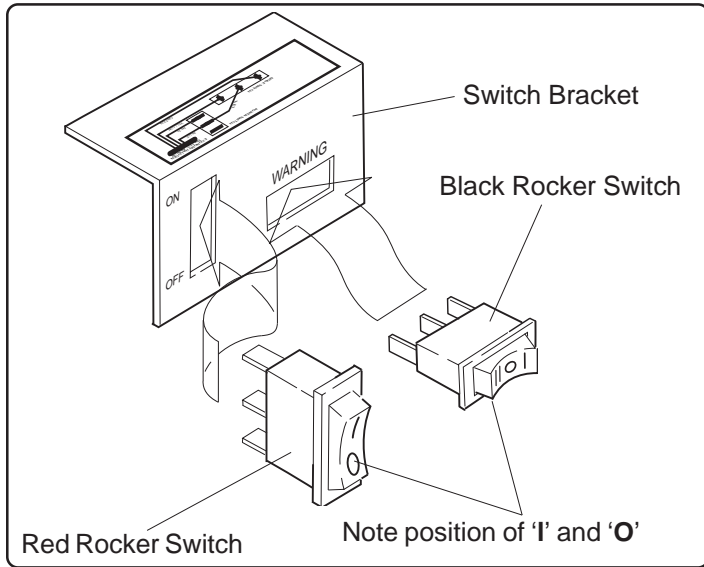

Figure 2. Switch Assembly
5. Assemble the control switches (Black and Red Rocker Switches) in the switch bracket as shown in figure 2, below, noting exact positions of switch markings ('I' and 'O').